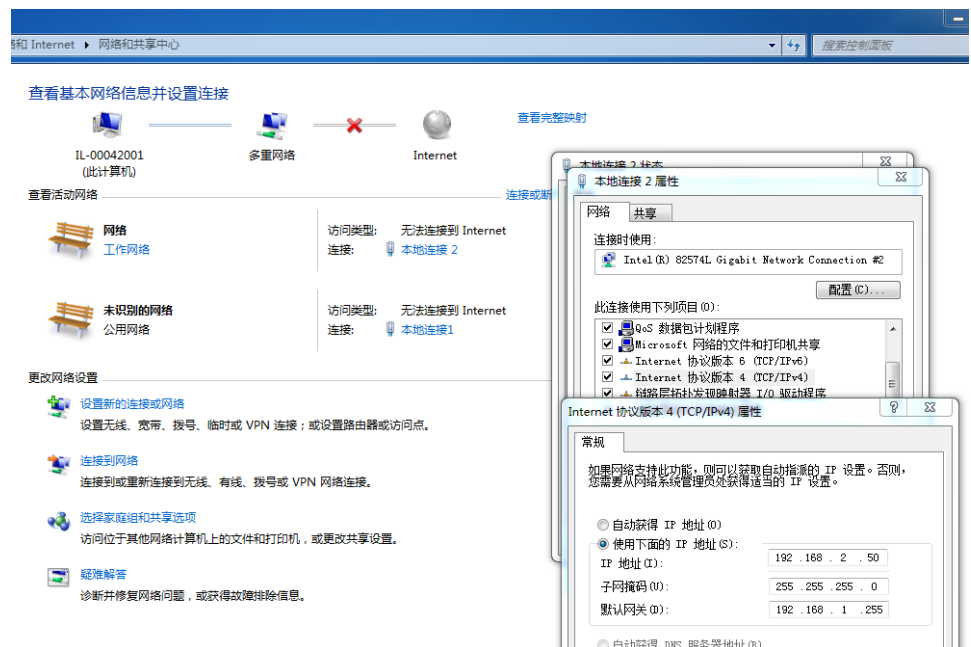

Figure 8-5 [Internet Protocol Version 4 (TCP/IPv4)] interface of local area connection 2
Step3. Click [Local Area Connection 2/Properties/Network/Internet Protocol Version 4 (TCP/IPv4)], configure the IP address of the laser control host and the robot control cabinet as: 192.168.2.50, and the subnet mask as: 255.255.255.0. As shown in Figure 8-5.